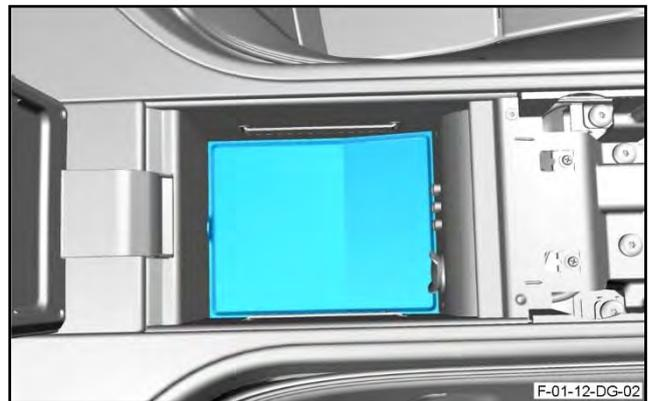

Figure 39
48. Remove the rubber insert from the rear stowage compartment (refer to Figure 39).